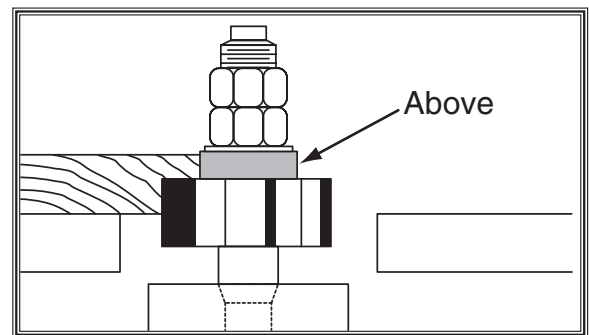

Figure 30. Rub collar mounted above cutter.
- **ABOVE THE CUTTER** as shown in **Figure 30**. This setup is the safest and produces the most consistent results.